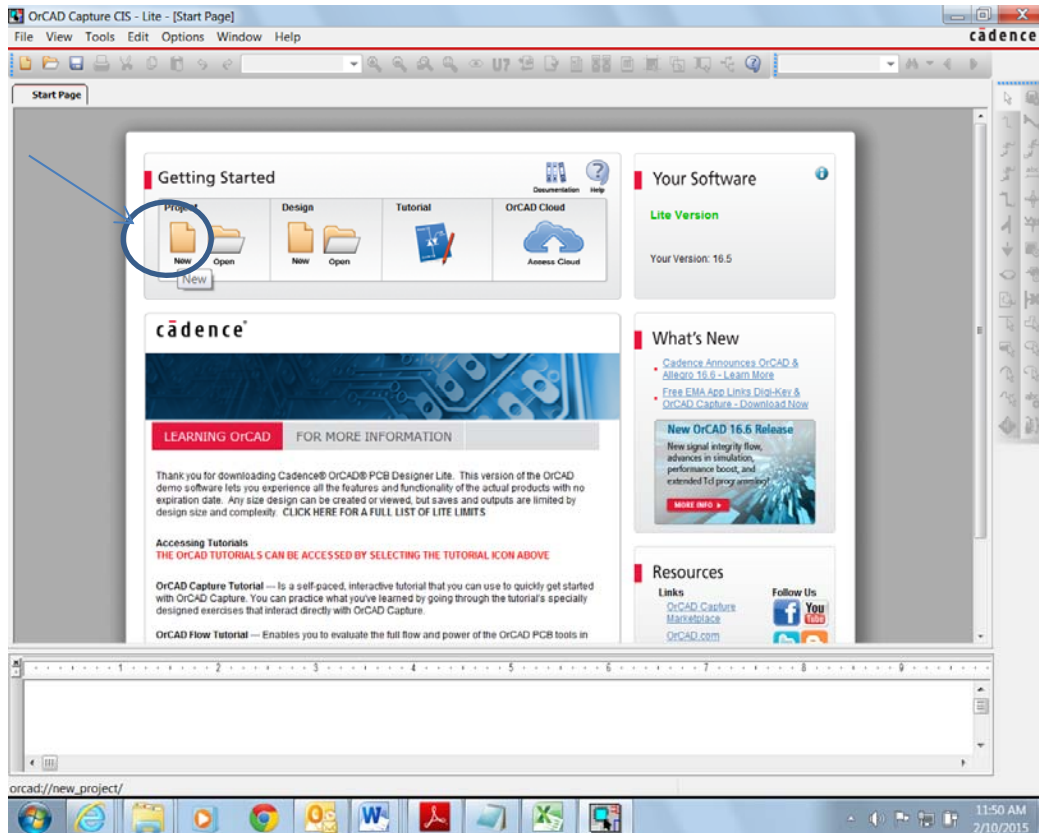
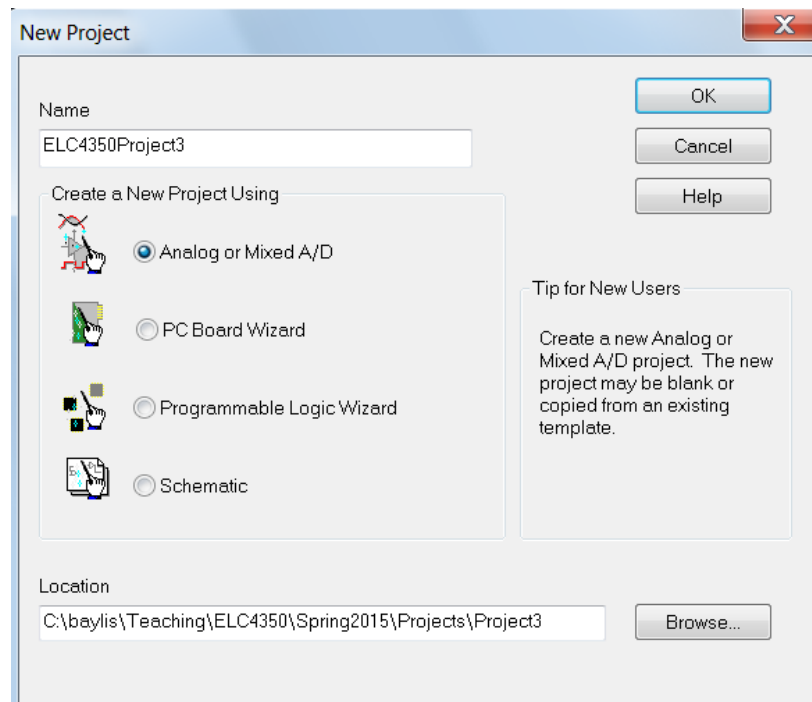
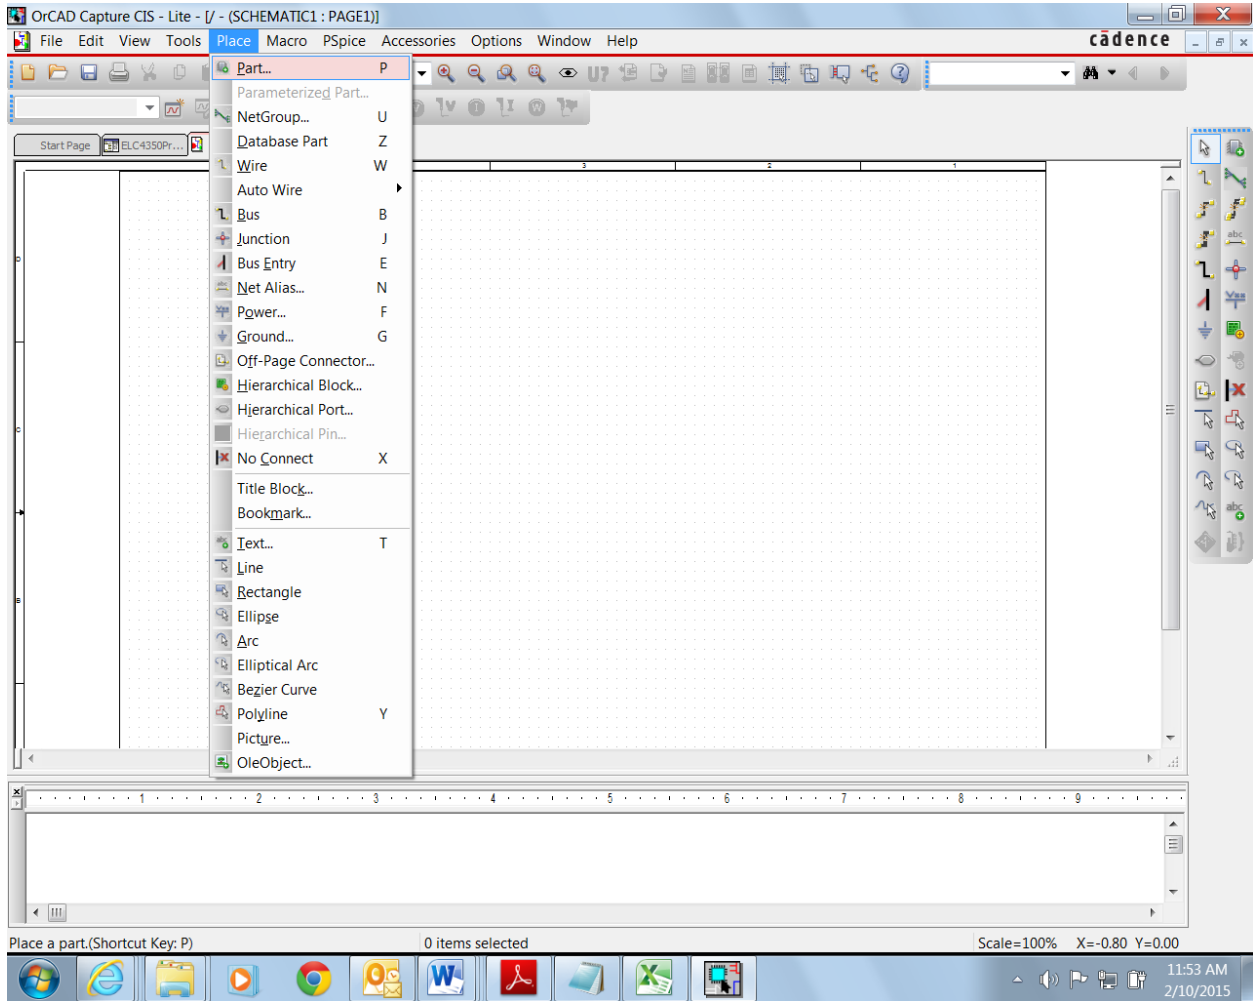
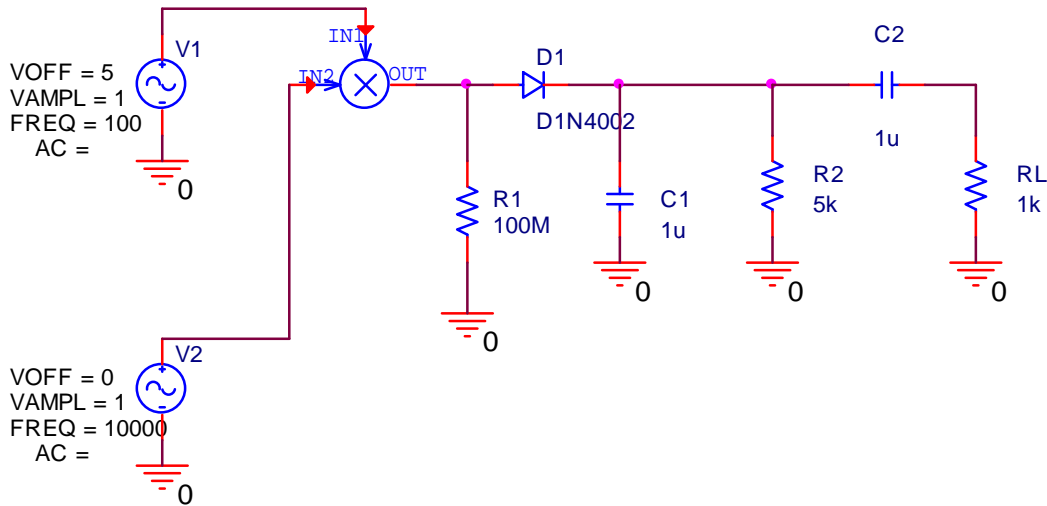

Figure 1. Selecting a New Project in PSPICE
Figure 2. New Project Settings
Figure 3. Selecting the Option to Place a Part in the Schematic
Figure 5. Demodulator Circuit Schematic
- Cover sheet including your name, the name and number of the course, and the project number (1).
- Description of results and answers to questions organized as given below with plots included as numbered figures (“Figure 1”, “Figure 2”, etc.). The Figures should be placed at appropriate places within the body of your descriptions.
First, open the program. Open "OrCAD Capture CIS Lite Edition." Choose the New Project option, as shown in Figure 1. As shown in Figure 2, name your project, designate the path to the file, and select "Analog or Mixed A/D". Click "OK" and then select the option to create a blank project. After the blank schematic opens, go to "Place → Part, as shown in Figure 3. After the window pops up, select "Add Library" and add all of the available libraries in the folder, as shown in Figure 4.
Assemble the demodulator circuit schematic of Figure 5 by going to the “Place Part” option again. You will use Vsin for the sources. The source with a frequency of 10 kHz serves as the carrier, while the signal ($A + m(t)$) (the modulating signal) is represented by the source with a frequency of 100 Hz. In this case, the message is
1. Run the analysis of the Figure 5 schematic and show the schematic as Figure 1 and the plot as Figure 2. Comment on the results. Does the demodulation occur as desired?
3. Modify the time constant by changing the resistor and capacitor values until the envelope is optimally demodulated. Calculate the time constant. What values of R2 and C1 provide optimal results? Explain why this is the case. Plot the results for your optimal combination (Figure 3). Also, find a case where the RC time constant is too short and plot the results as Figure 4. Finally, find a case where the RC time constant is too long and plot the results as Figure 5.